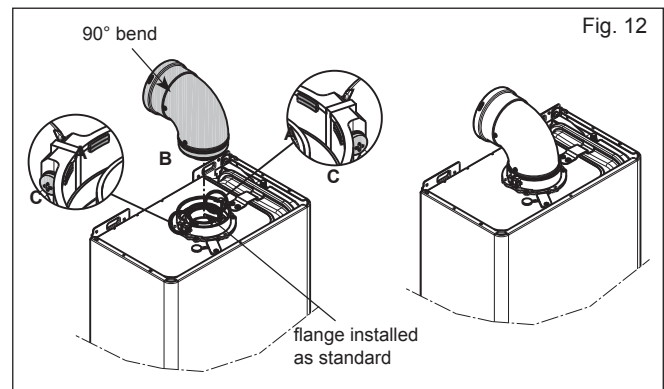
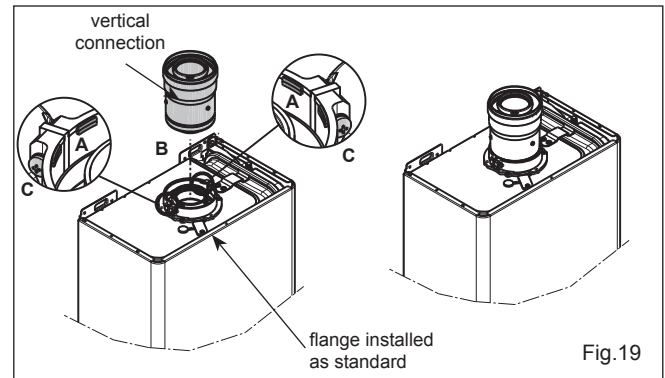

Fig. 12
Fig.19
Carefully measure the distance from the centre of the appliance flue outlet to the edge of the finished outside wall (dimension X). Add 65mm to dimension X to give you Dimension Y (see fig. 12). Measure dimension Y from the terminal end of the concentric flue pipe and cut off the excess ensuring any burrs are removed.
**NOTE:** The appliance incorporates a 'click-fit' flue connection (see fig. 12). Ensure that both screws 'C' (fig. 12) on the 'click-fit' have been slackened off. Ensure that the bend is correctly aligned with the connector and insert the flue bend into the connector until it clicks into position (this is when the tabs at points 'A' are located in the groove of the flue bend - see fig. 12). Both screws (C) should now be tightened.
**NOTE:** The appliance incorporates a 'click-fit' flue connection (see fig. 12). Ensure that both screws 'C' (fig. 12) on the 'click-fit' have been slackened off. Ensure that the bend is correctly aligned with the connector and insert the flue bend into the connector until it clicks into position (this is when the tabs at points 'A' are located in the groove of the flue bend - see fig. 12). Both screws (C) should now be tightened. The additional bends & extensions have push-fit connections, care should be taken to ensure that the correct seal is made when assembling
**NOTE:** The appliance incorporates a 'click-fit' flue connection (see fig. 19). Ensure that both screws 'C' (fig. 12) on the 'click-fit' have been slackened off. Ensure that the connector is correctly aligned with the 'click-fit' and insert it into the 'click-fit' until it clicks into position (this is when the tabs at points 'A' are located in the groove of the vertical flue connector - see fig. 19). Both screws (C) should now be tightened.